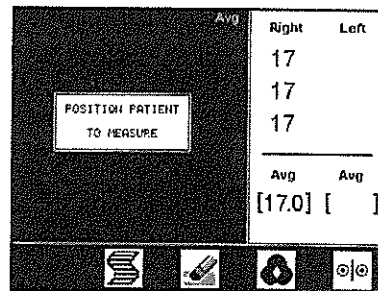

Figure 4
9. Once you have completed the measurement on one eye, the screen will look similar to that shown above (See Figure 4). The measurement data and average value is displayed. To measure the opposite eye, instruct the patient to move to the opposite side of the forehead rest and repeat the measurement process.